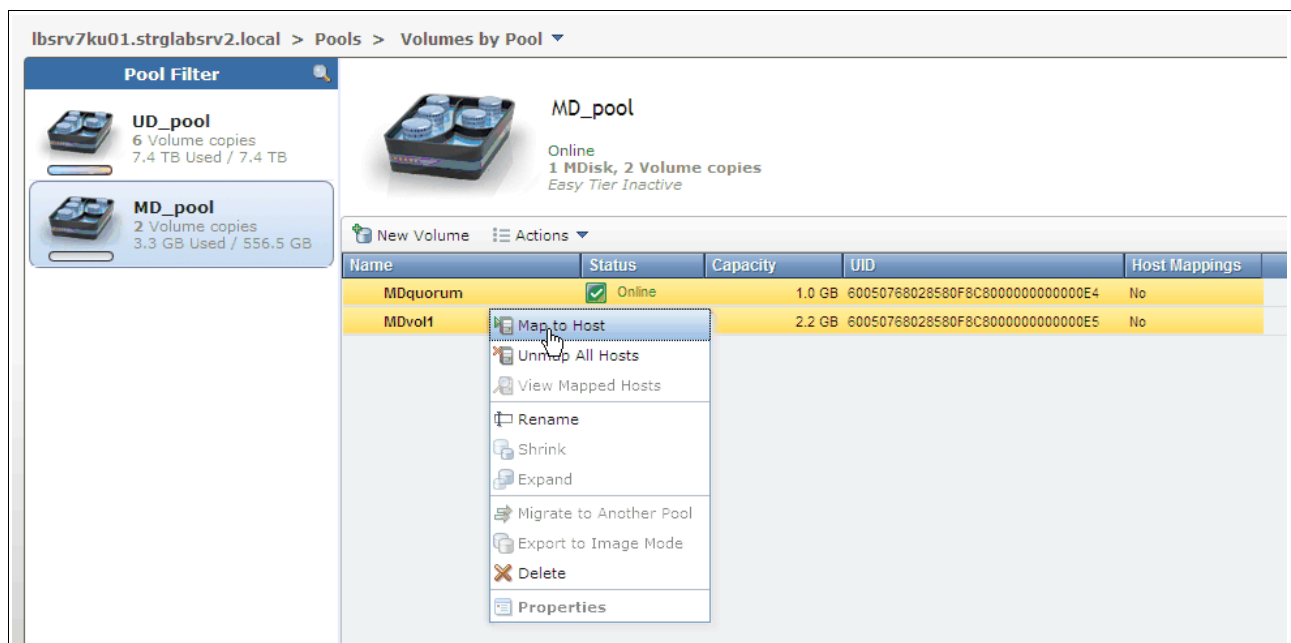

Figure 9-16 Volumes by pool
2. Click **Volumes by Pool** to open the list of volumes separated by pool (Figure 9-16). Mark the volumes, right-click, and click **Map to Host**.